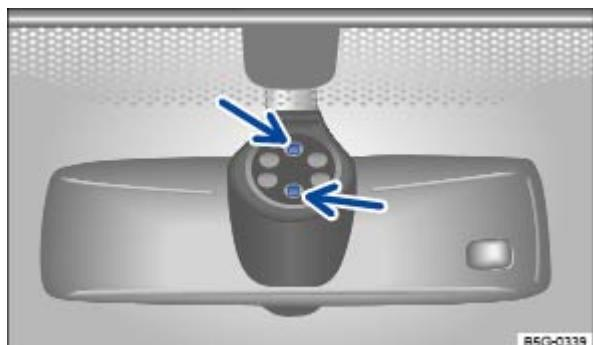

Fig. 95 Inside the front windshield above the inside mirror: Sensitive rain sensor surface (arrows).
The rain sensor may misread what is happening in the *detection zone of its sensitive rain-sensor surface* ⇒ Fig. 95 (arrows) and not work for a number of reasons, which may include:
- **Dirt:** Caked-on dust, wax, any other buildup on the windshield (lotus effect), or car-wash detergent residue can lower the rain sensor's sensitivity and cause it to react too slowly or not at all. Clean the rain sensor's sensitive surface ⇒ Fig. 95 (arrows) regularly and check the wiper blades for wear or damage.